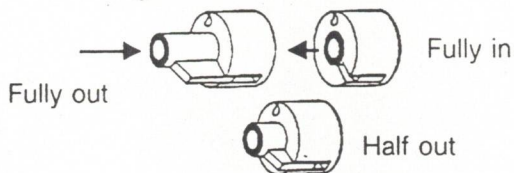

Fig. 1. GAS CONTROL KNOB
2. Depress the centre knob fully in and then release. The knob will return to the half way position and gas will flow to the pilot burner. Refer Fig. 1.